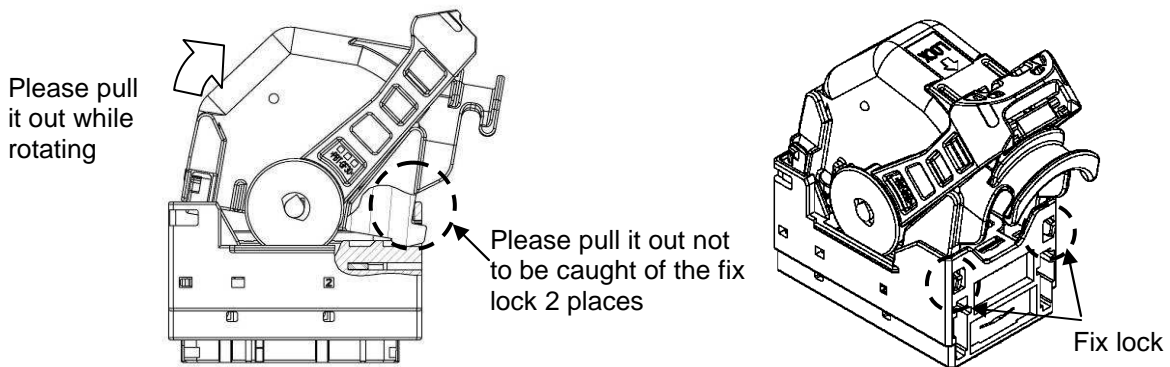

Fig.26
②After unlock the cover from the female connector, turn the cover to direction of the fig.26 arrow that cover fix lock don't catch female connector.